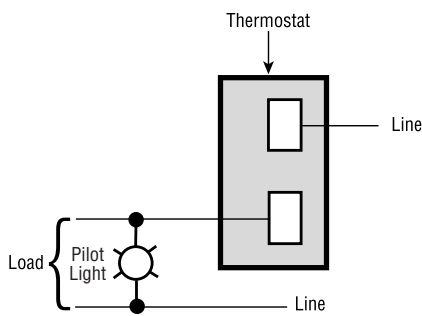

Figure 10 — Single phase loads when load does not exceed rating of thermostat.
2. Connect wires according to wiring diagrams (Figures 10 and